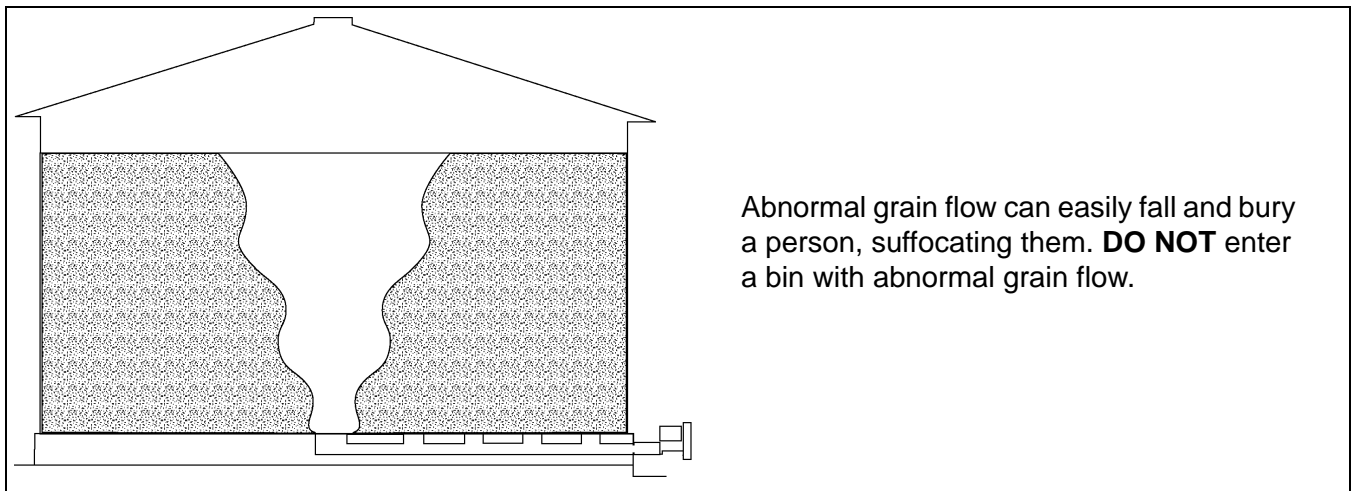
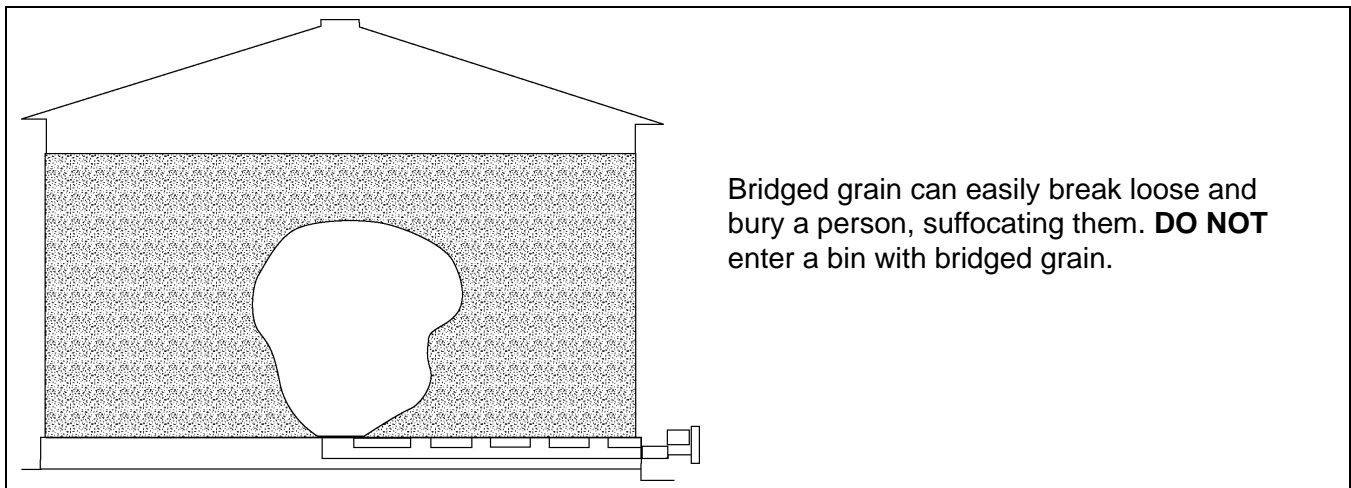
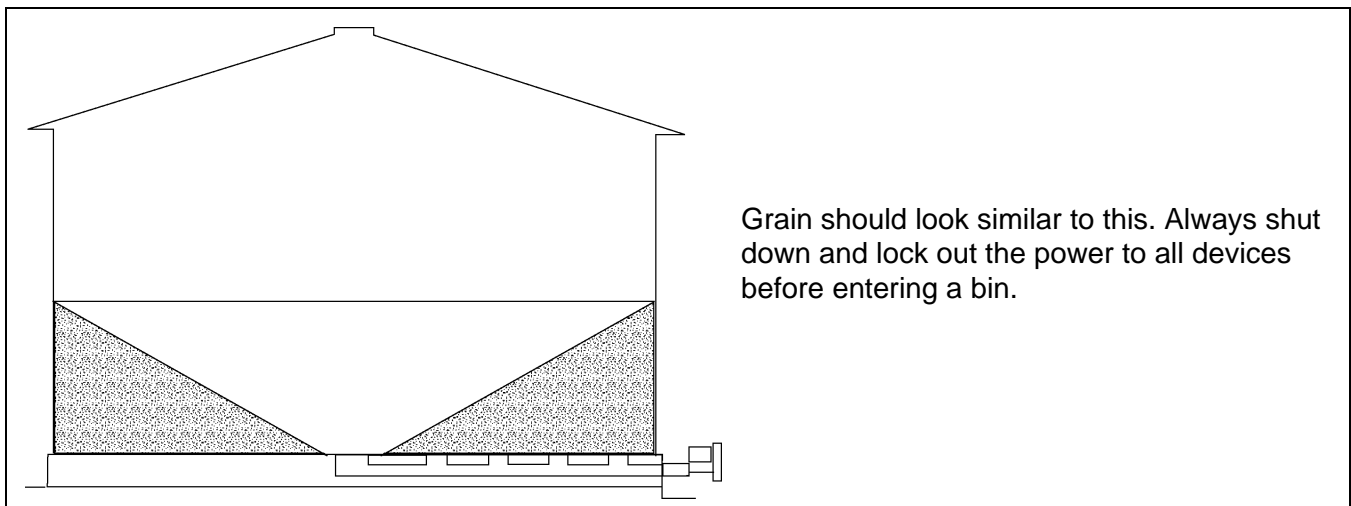

Figure 5A
Figure 5B
Figure 5C
- b. The grain remaining should appear as in *Figure 5C on Page 21*. **DO NOT** enter a bin if the grain has bridged or flowed abnormally out of the bin as shown in *Figure 5A* or *Figure 5B on Page 21*. Suffocation can occur if grain suddenly breaks loose, burying persons who are inside the bin.